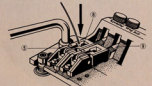

Fig. 2
- Insert string between locking block (3) and string saddle (4) as in Fig. 2, and tighten saddle clamp securely.